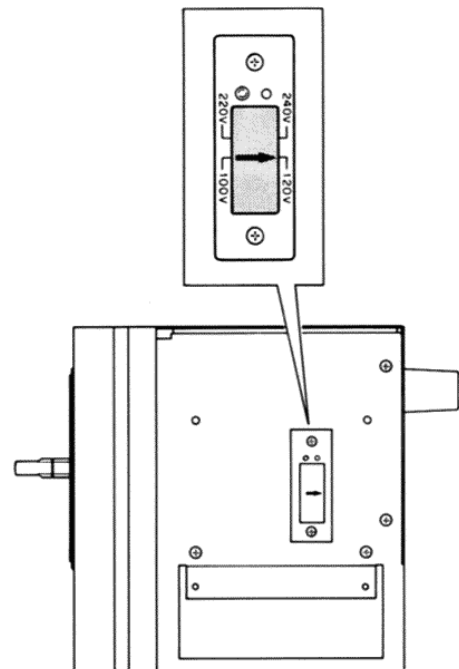

Figure 3-1. Voltage Selector Location
2. Locate the voltage selector plug (see Figure 3-1).